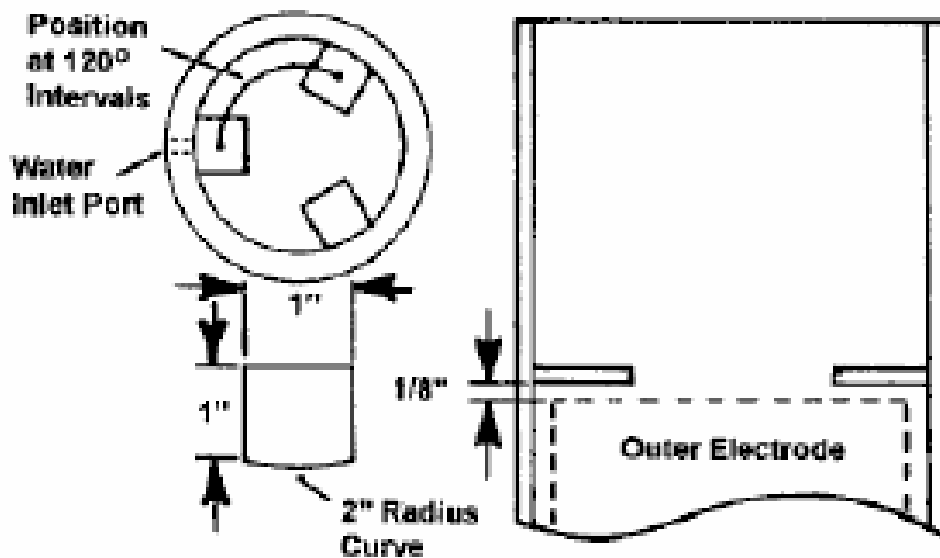

Figure 12: Coil Mounting Brackets
2. Referring to the following Figure 12, fabricate 3 coil support brackets (with the indicated dimensions) from 1/8" thick CPVC sheet.